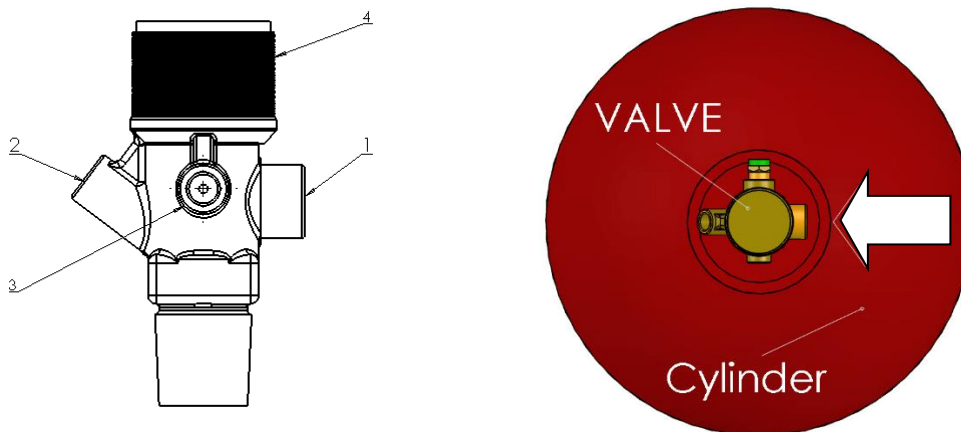

Figure 5.2 - 200 / 300 bar Differential Pressure Valve (left),
**Important:** The cylinders must be installed in the racking before the cylinder transport cap is removed. An arrow on the cylinder will indicate the position of the valve discharge outlet as shown in *Figure 5.2* The cylinders must always be transported with their protection caps fitted. Use of a 4 wheel trolley to move the cylinders.
- Remove the pressure gauge connection transit plug using a 4mm hexagonal key and retain for future use, See *Figure 5.2*
- Connect the storage cylinder valve gauge to the storage cylinder valve using connection 2 *Figure 5.2* and the M10 x 1 connection on the gauge